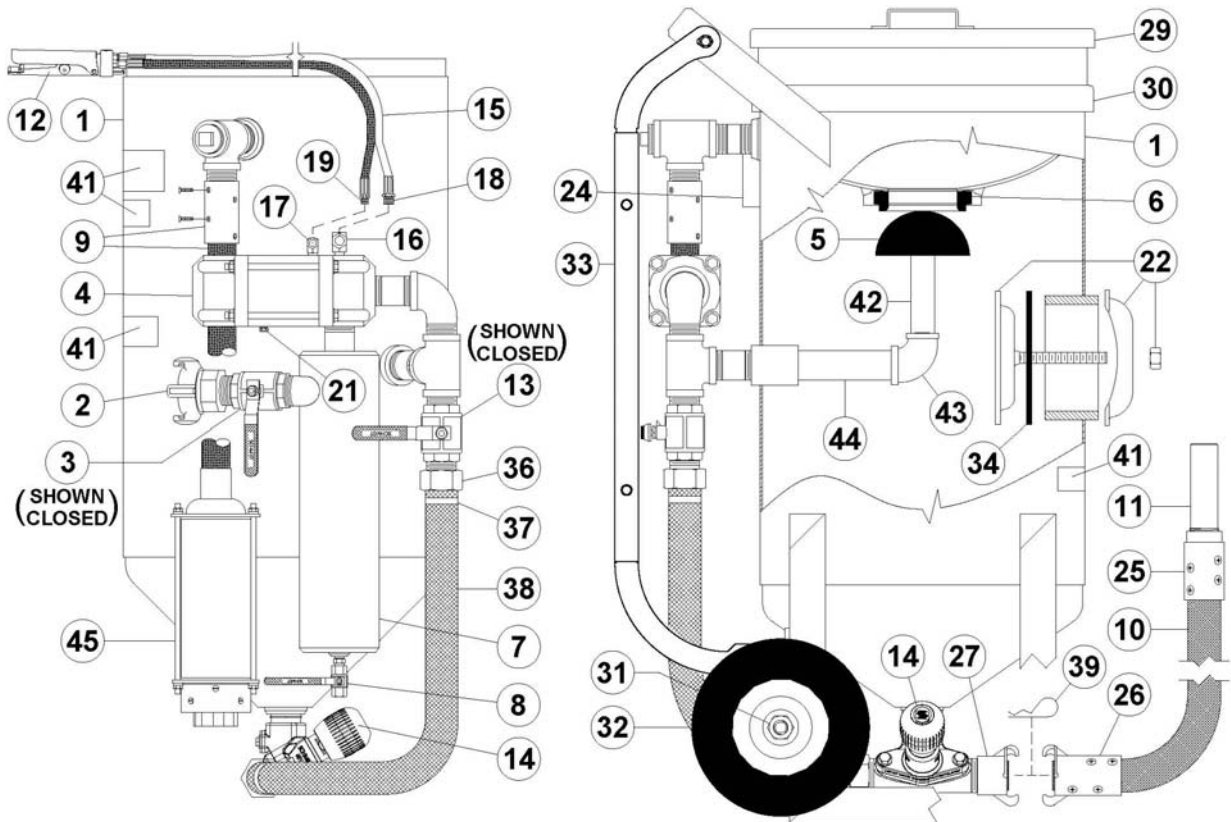

Figure 8.4 – MV3 Valve Abrasive Blaster with pneumatic blast controls
- 8.11. **ComboValve® Blowdown Hose:** The blowdown hose (#9) that passes through the ComboValve (#4) is a 3/4" blast hose. Abrasive carry-over will thin the blowdown hose wall and eventually wear a hole through the hose. Excessive thinning will prevent the ComboValve pinch ram from sealing the exhaust flow and result in equipment malfunction. The abrasive carry-over will also wear the pipe fittings upstream. See Figure 8.4. Depressurize the abrasive blaster per Section 6.2 and check hose condition weekly. Replace as needed. When replacing the blowdown hose (#9) also replace the pipe fittings upstream of the valve. These fittings are the 1-1/4" x 3" VBS II Restrictor, 1-1/4" tee, and the 1-1/4" pipe plug (see Figure 8.4).